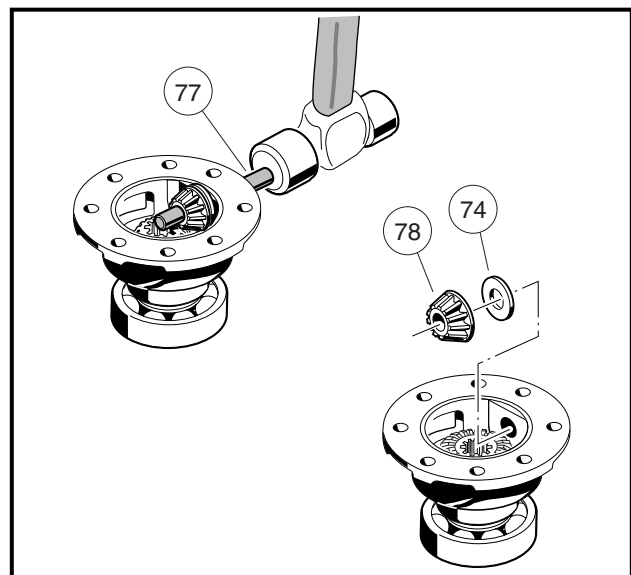

Figure 19-36 Idler Gear
3. Start the differential pin (77) into the carrier case by lightly tapping it in with a plastic or rubber hammer. Before the pin enters the inside of the carrier case, position the thrust plate (74) and idler gear (78) in the case and continue tapping the pin through the thrust plate and idler gear (**Figure 19-36, Page 19-19**).